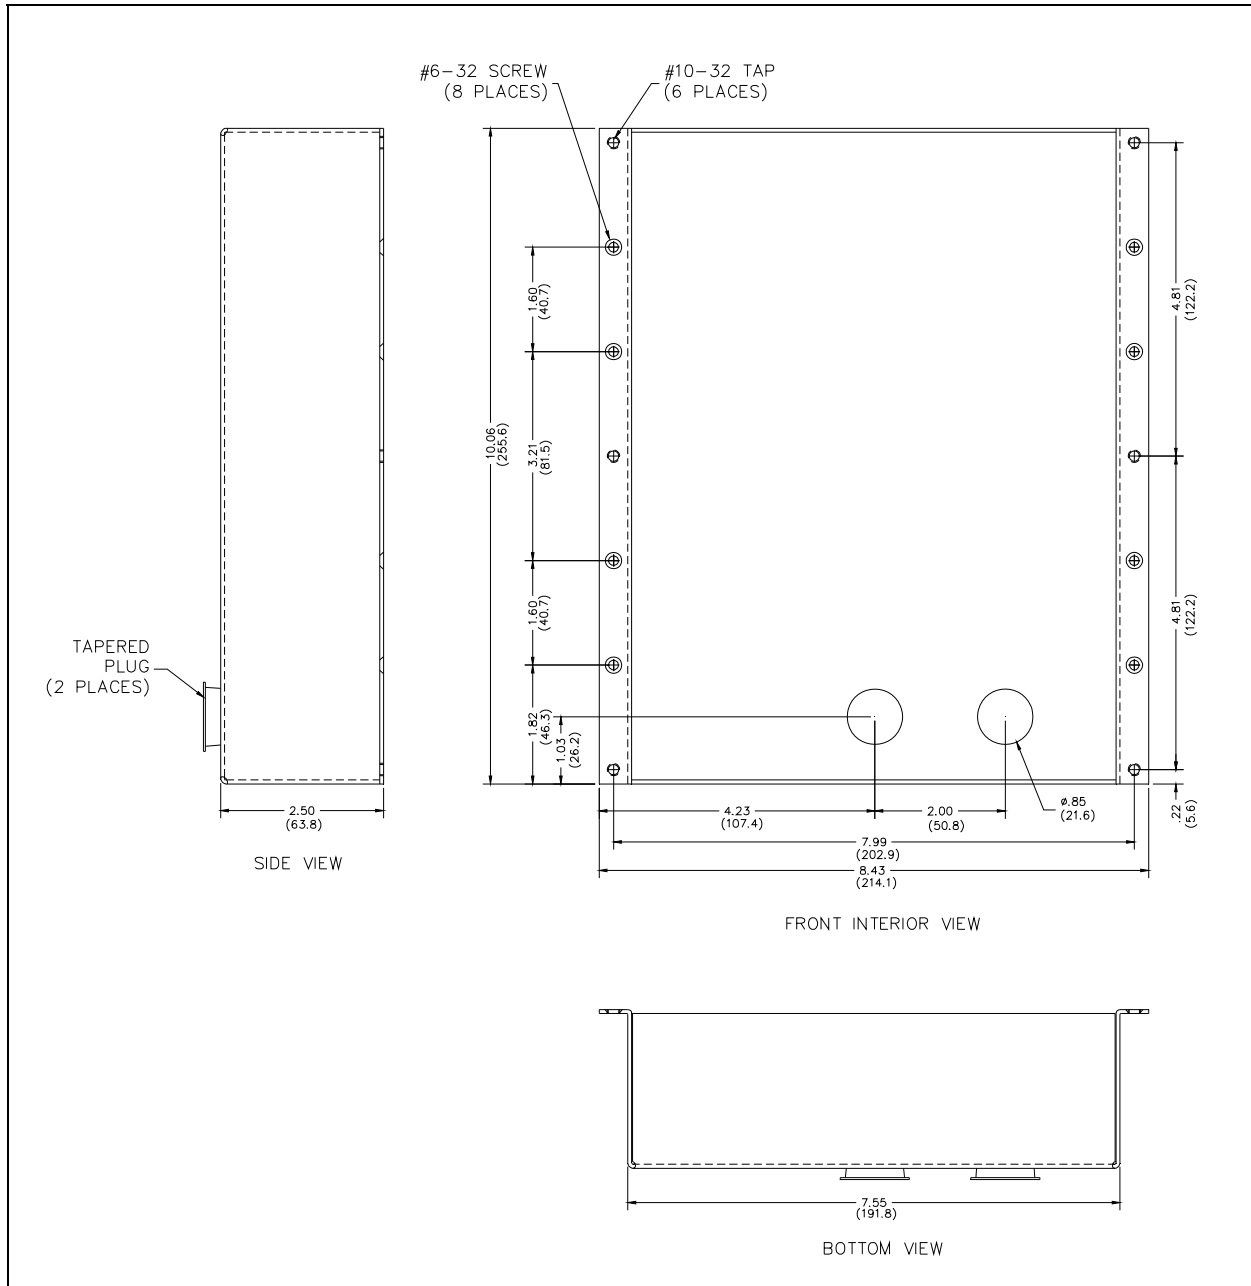

Figure 11. Model 276-700 Mounting Details
1. Use the supplied back box to mount the Model 276-700 VoIP Telephone in flush-mount applications or in a GAI-Tronics Model 234 Series Stanchion. Mount the back box to the structure using the appropriate hardware. Refer to Figure 11 cutout dimensions.